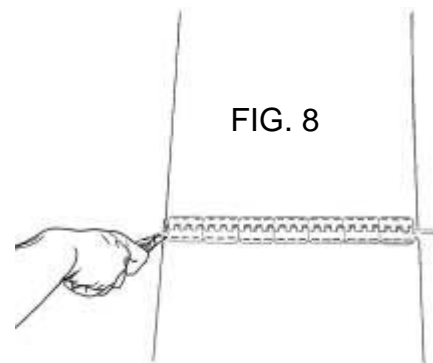

FIG. 8
- 5.) Relieve the corners of the belt and insert the pin hinge. FIG 8.